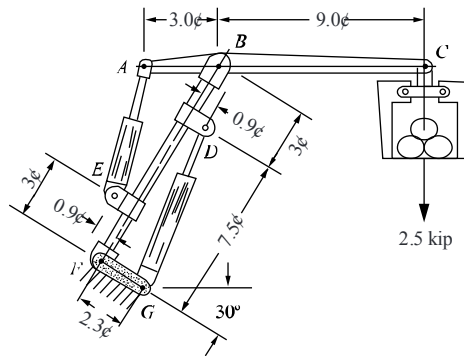

Figure P5-63
**5.63** A pulpwod loader as shown in Figure P5-63 is to be designed to lift 2.5 kip. Select a steel and determine a suitable tubular cross section for the main upright member  $BF$  that has attachments for the hydraulic cylinder actuators  $AE$  and  $DG$ . Select a steel and determine a suitable box section for the horizontal load arm  $AC$ . The horizontal load arm may have two different cross sections  $AB$  and  $BC$  to reduce weight. The finite element model should use beam elements for all members except the hydraulic cylinders, which should be truss elements. The pinned joint at  $B$  between the upright and horizontal beam is best modeled with end release of the end node of the top element on the upright member. The allowable bending stress is  $0.66 S_y$  in members  $AB$  and  $BC$ . Member  $BF$  should be checked for buckling. The allowable deflection at  $C$  should be less than  $\frac{1}{360}$  of the length of  $BC$ . As a bonus, the client would like you to select the size of the hydraulic cylinders  $AE$  and  $DG$ .